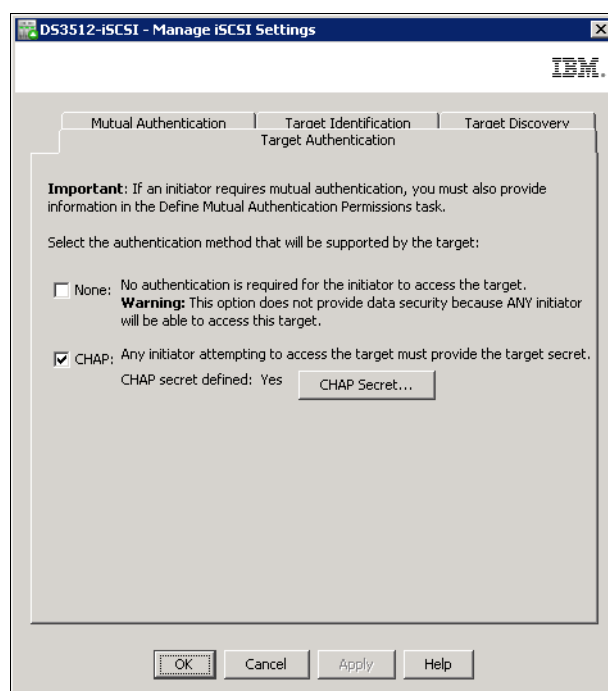

Figure 13-2 Manage iSCSI Settings - Target Authentication
1. Click **Storage Subsystem** → **iSCSI** → **Manage Settings**, and the Target Authentication tab (Figure 13-2) appears in a new window.
5. Click **OK** to return to the Target Authentication window (Figure 13-2 on page 313). Click **OK** to save the modifications.
1. In the Manage iSCSI Settings window (Figure 13-2 on page 313), select the Mutual Authentication tab.